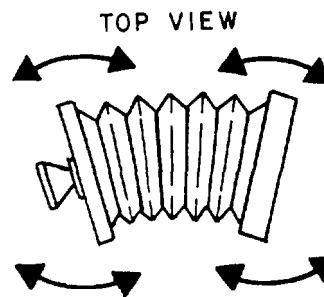

Figure 4-21—Swing movement of front and rear standards.
1. **Horizontal or lateral swing.** Both the front and rear standards swing horizontally (fig. 4-21).